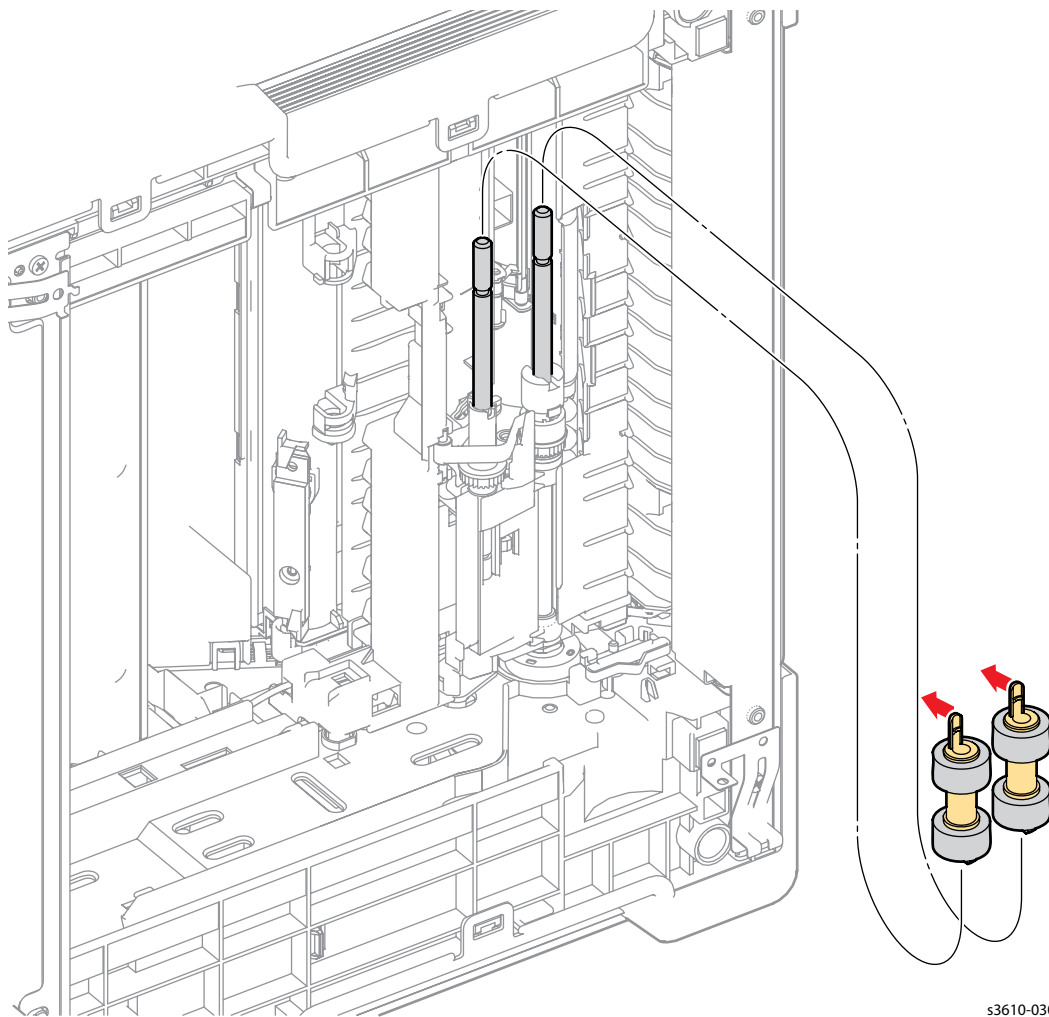

Figure 1
2. Reach into the tray cavity and release the clips that secure the Feed and Nudger Rollers to the shafts. (Figure 1)